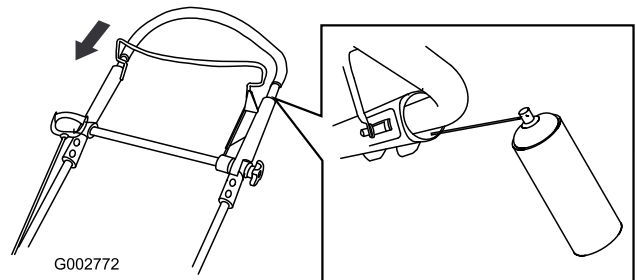

Figure 45
2. Push the upper handle fully down and spray the inner plastic surface of the outer handle (Figure 45).